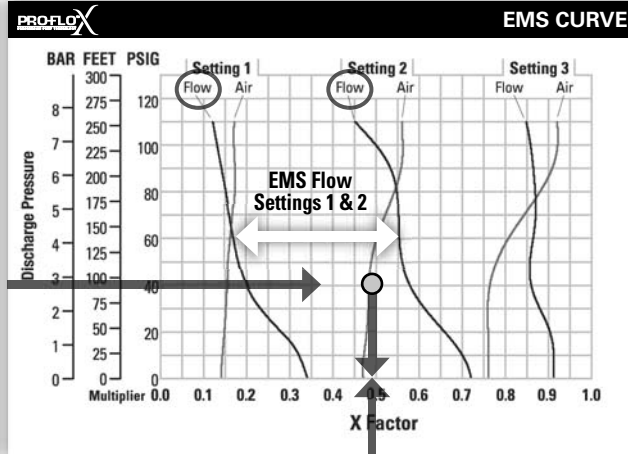

Figure 5
**Step 4: Determine EMS setting from the flow X Factor.** Plot the point representing the flow X Factor (0.49) and the application discharge pressure 2.8 bar (40 psig) on the EMS curve. This is done by following the horizontal 2.8 bar (40 psig) discharge pressure line until it crosses the vertical 0.49 X Factor line. Typically, this point lies between two flow EMS setting curves (in this case, the point lies between the flow curves for EMS setting 1 and 2). Observe the location of the point relative to the two curves it lies between and approximate the EMS setting (figure 5). For more precise results you can mathematically interpolate between the two curves to determine the optimal EMS setting.